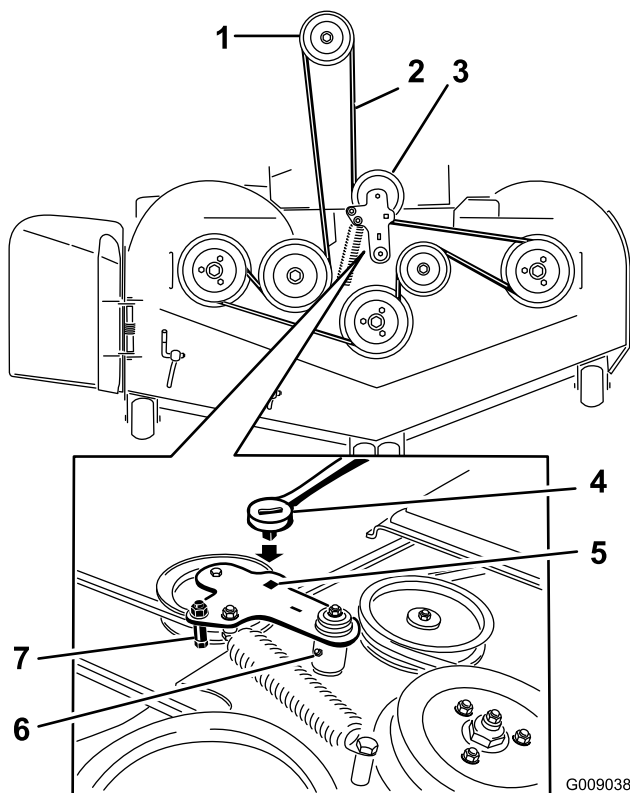

Figure 75
5. Use a ratchet in the square hole in the idler arm to remove tension on the idler spring (Figure 75).
7. Remove the belt guide on the spring loaded idler arm shown in Figure 75.
9. Install the new belt around the mower pulleys and the clutch pulley under the engine (Figure 75).
10. Install the belt guide on the idler arm shown in Figure 75.
11. Using the ratchet in the square hole, install the idler spring (Figure 75).